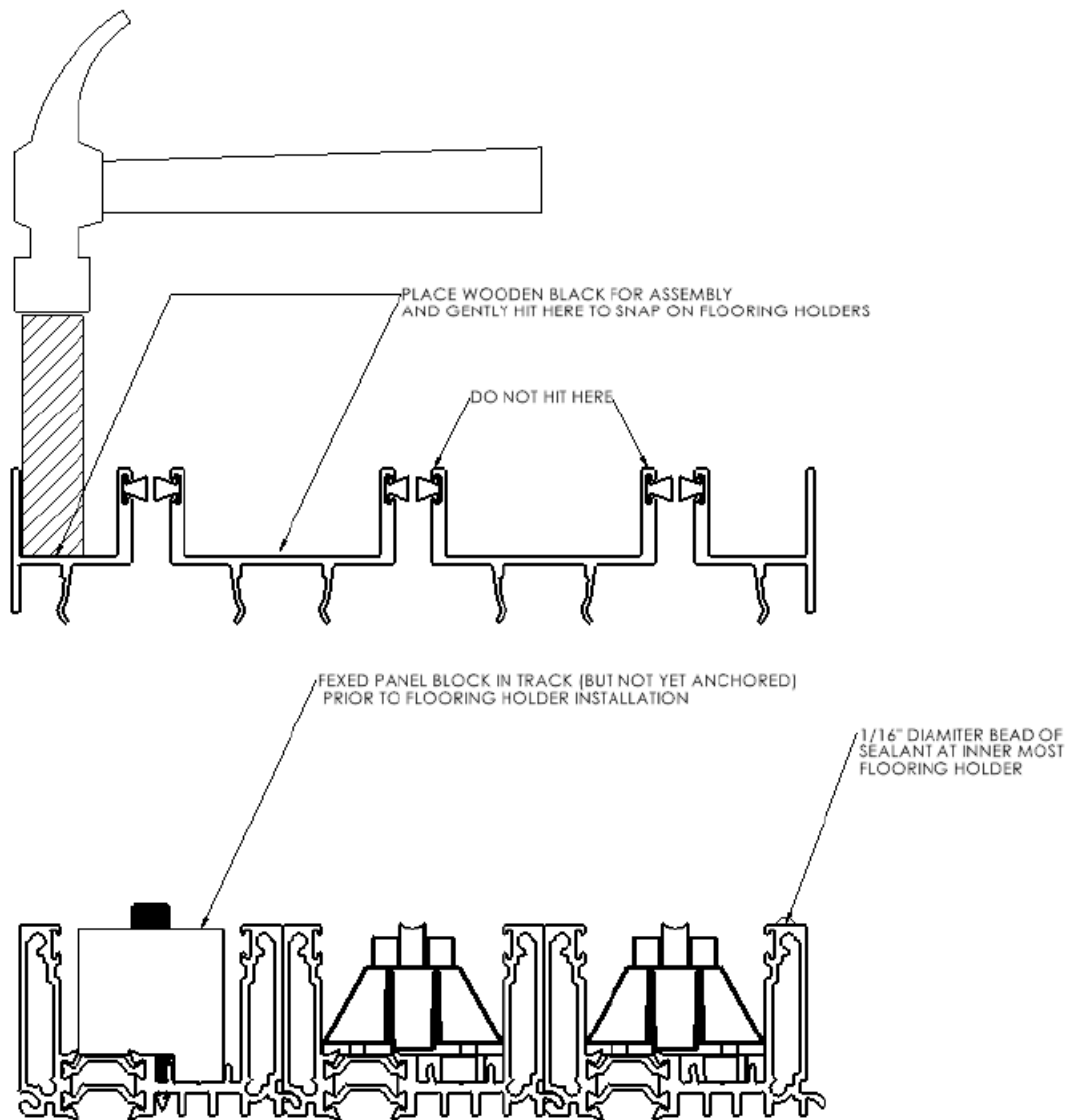

Figure 10
17. Snap the Flooring Holder extrusions onto the lower half of the sill with a block of wood and hammer. Place the block of wood between the vertical legs of the flooring holder to avoid damage. Start at one end of the extrusion and slowly work down the length of whole sill to avoid bending the flooring holders. The flooring holders can be ordered long to allow them to be cut to shorter lengths at installation to allow for easier service based on flooring types. See **Figure 10**.